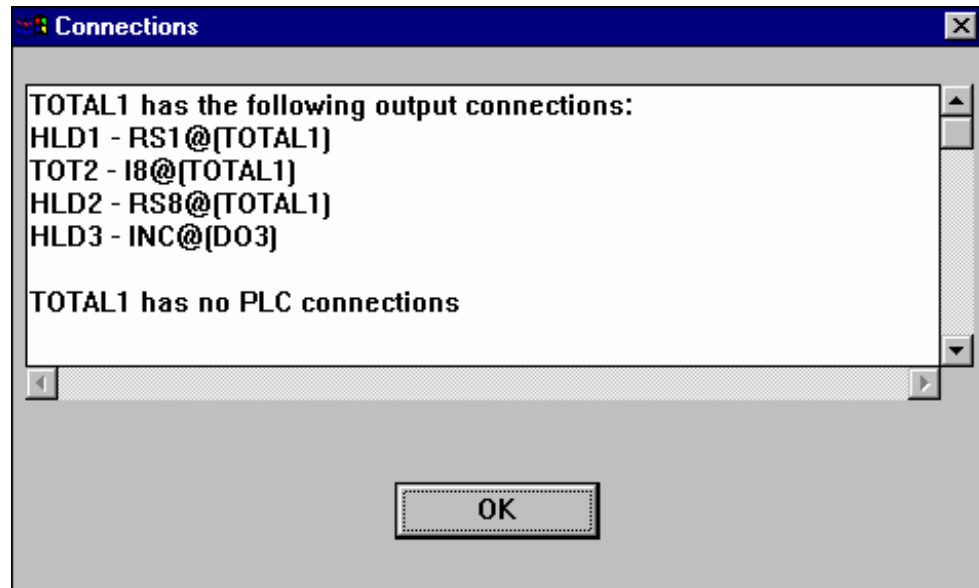

Figure 6-10: Connections Dialog Box Example
2. On the View menu, click Show Connections. Connections dialog box appears (Figure 6-10) and shows all source point connections.